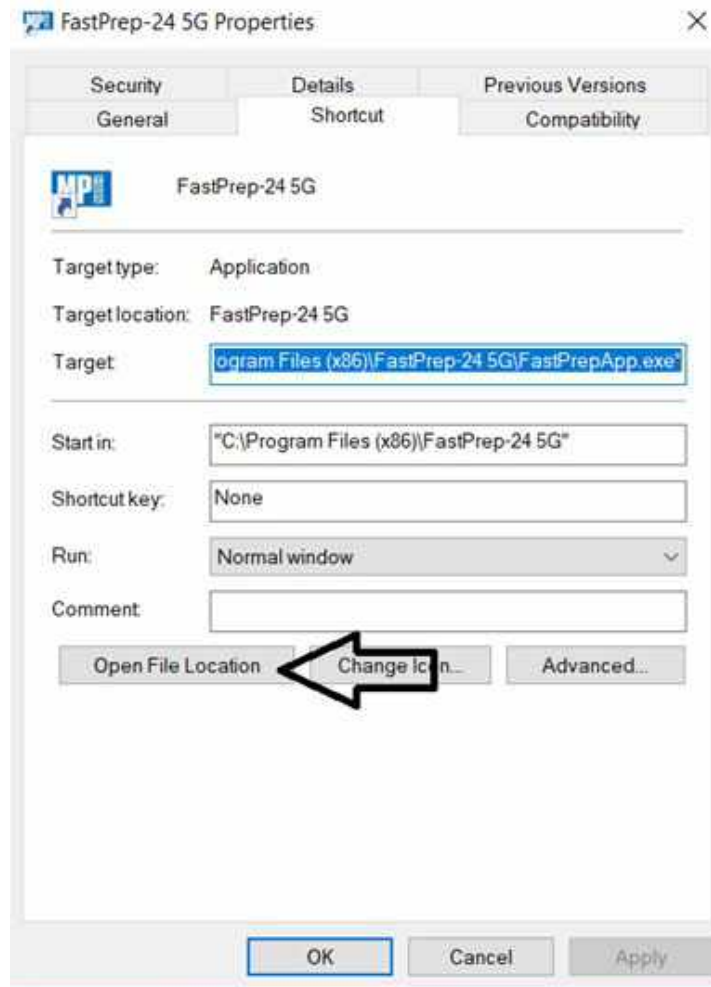

Figure V-29: FastPrep-24 5G Properties Window
4. On the new window (Figure V-29), under the tab “Shortcuts,” select “Open File Location.”
3. Connect the USB cable first to the laptop using the large Type A plug, then to the FP-24 5G using the smaller Type B plug \(Figure V-29\).